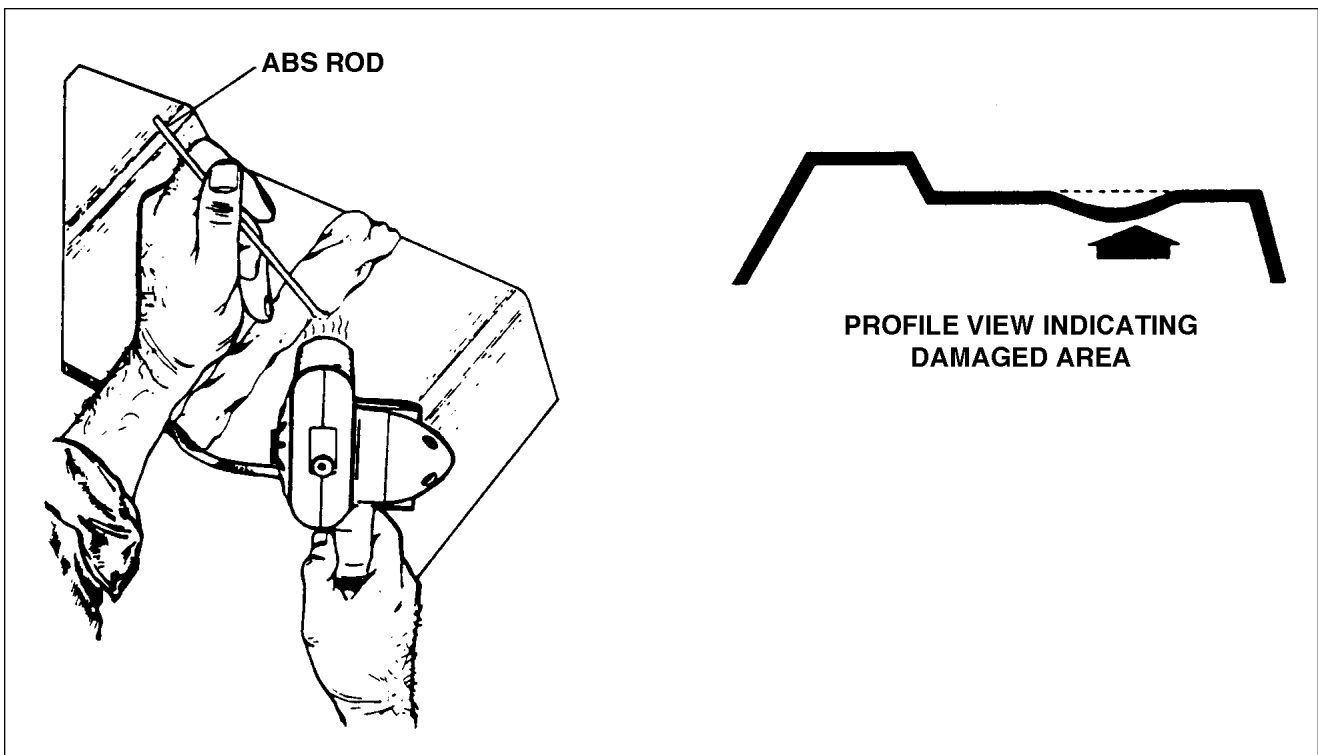

Figure 4-21. Repair of Impacted Damage
1. Stress lines produce a whitened appearance in a localized area. They are generally caused by severe bending or impacting of material. (Refer to Figure 4-21.)